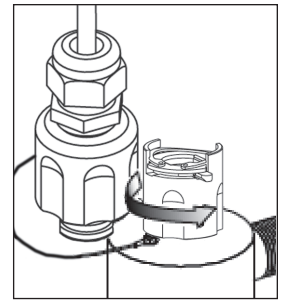
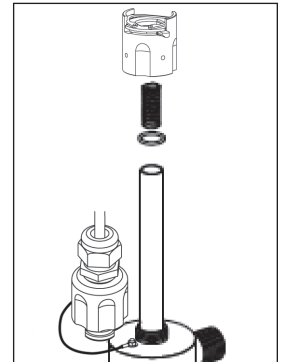

Figure 3A
Figure 3B
4. Remove the gland nut by turning counter clockwise (Figure 3A). Place a small pail under the reactor chamber to catch any water that may leak from the system. Grasp the quartz sleeve and fully remove from the reactor chamber. As with the lamp, make sure the sleeve is removed from the reactor chamber being careful not to angle the sleeve as it is removed from the reactor (Figure 3B) to avoid breakage.